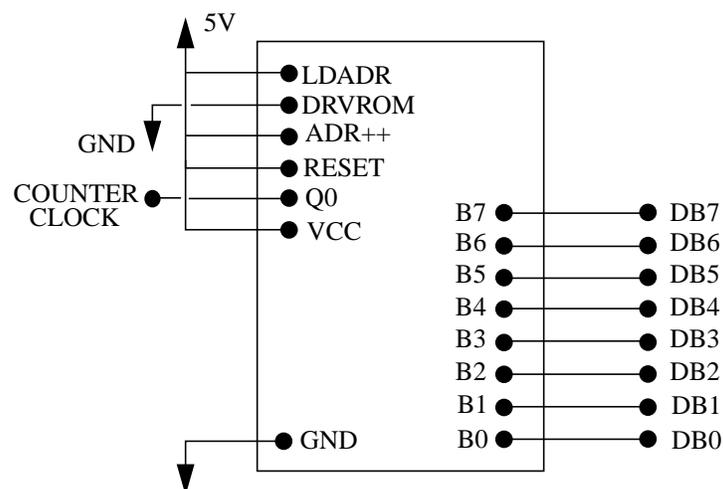

Figure 1: pin assignments for the printed circuit board that contains the counter and memory.
Figure 1 shows the pin assignments for the printed circuit board. The pins for the eight memory output data bits are on the right hand side. The pins for power and ground, and the clock input to the counter are on the left hand side. You should connect the power pin to the 5-V power supply on the protoboard, and the ground pin to ground
on the protoboard. There are also four counter and memory control pins which must be connected to the 5-V power supply and ground as shown in Figure 1.
- (4-5) Connect the eight data-bit inputs of the digital-to-analog converter to their corresponding data-bit outputs from the memory; refer to Figure 1 for the memory pin assignments. With the oscilloscope, observe the converter output v_{DAC} . You should see an audio signal reconstructed in a piecewise constant manner. Adjust the offset voltage v_{OFF} so that the audio signal is centered around 0 V.